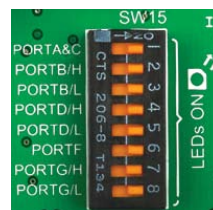

Figure 6-6: SW15.1 through SW15.8 switches are used to enable PORT LEDs
specified by the manufacturer. The current varies from 0.2mA to 20mA, depending on the type of the LED and the manufacturer. The EasyPIC Fusion™ v7 board uses low-current LEDs with typical current consumption of 0.2mA or 0.3mA. Board contains 68 LEDs which can be used for visual indication of the logic state on PORT pins. An active LED indicates that a logic high (1) is present on the pin. In order to enable PORT LEDs, it is necessary to enable the corresponding DIP switch on **SW15** (**Figure 6-6**).